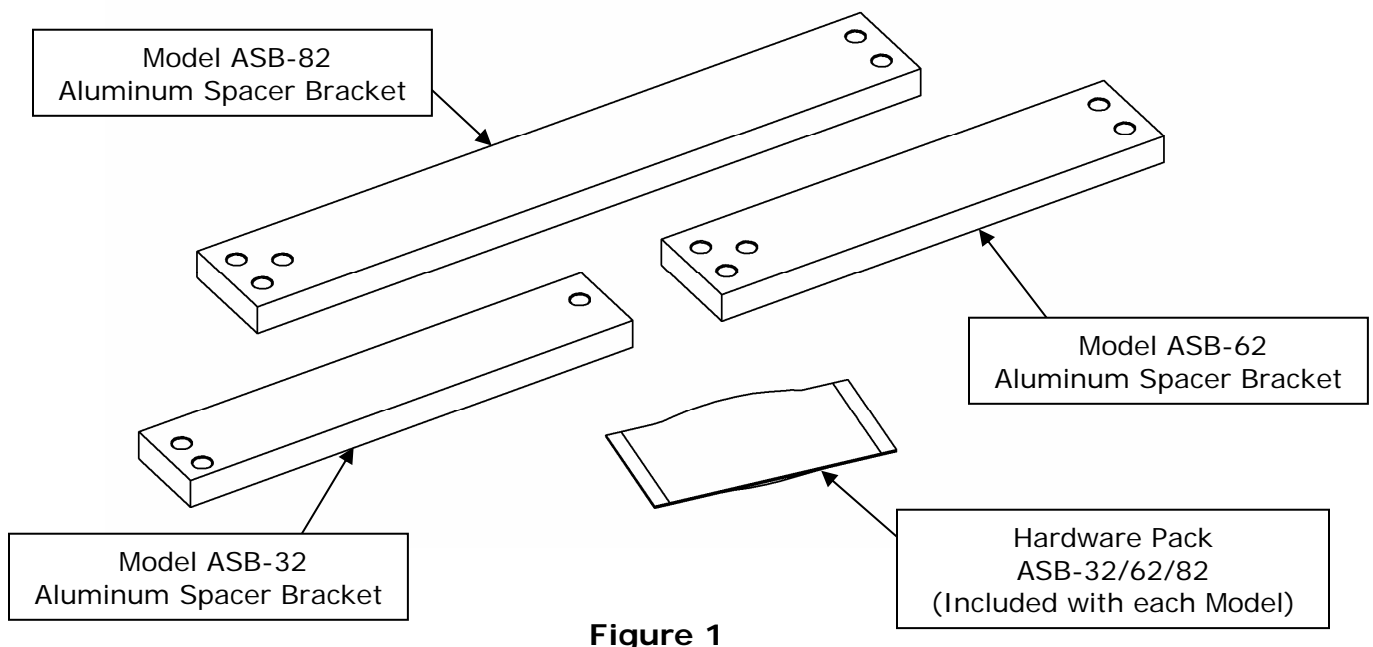

Figure 1
All three (3) ASB brackets are separately available in clear or black anodized finishes. The illustration below in **Figure 1** indicates the three bracket model types. Along with these instructions, each model type contains one (1) model type bracket and the individually related hardware pack. Upon unpacking this product, an inventory should be made to ensure that the required bracket and hardware have been included.